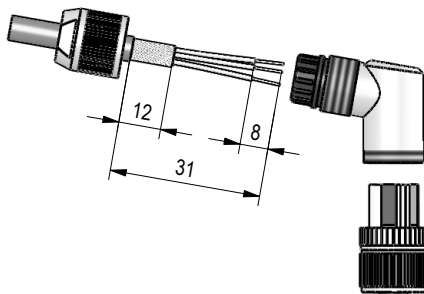

Fig. 3: Right angle mating connector M12
#### Mounting (Fig. 3)
**Changing the angle position (Fig. 3)**